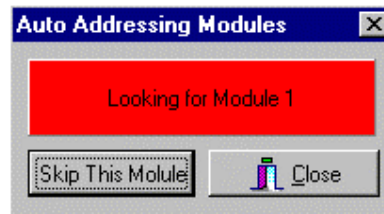

Fig. 102
5) Click Auto Address Modules with your left mouse button. The following window will appear (fig 102):